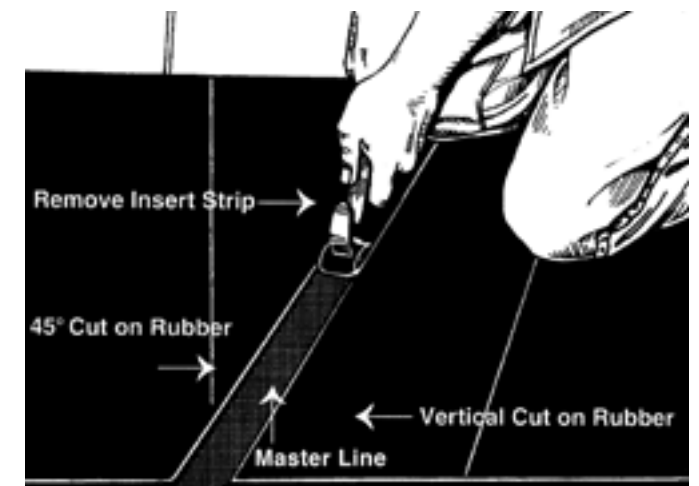

Fig. 11-4: Removing insert strip, note position of bias line, and angle cut.
- Remove the cover strip. Note one skived cut and one vertical cut in the cover (Fig. 11-4).